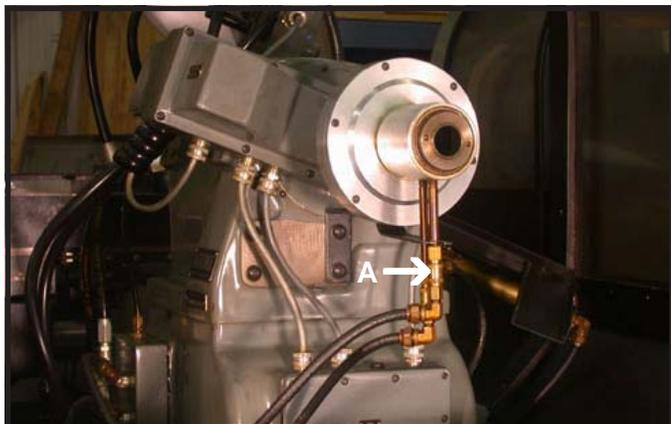
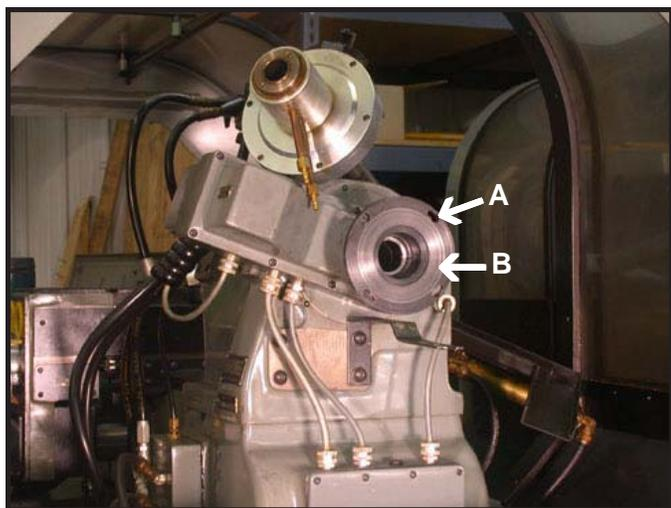

Figure 2.5.1
Figure 2.5.2
Installing new belt can be done after the removal of the feedback unit (See Figures 2.5.1 through 2.5.5).
Removal of the collet closer and the collet closer back plate. Tag which air line is connected to which fitting and then disconnect the two air lines from the collet closer by pulling up on the quick disconnect (A). Loosen the four socket head cap screws on the back of the collet closer (see Figure 2.5.2 - A). Make sure the collet has been removed from the spindle. Rotate the collet closer slightly clockwise, when looking at the collet closure from view in Figure 2.5.1 and pull it toward you to remove the screw heads from the keyhole slots in the collet back plate. Keep pulling the collet closer toward you until the end of the draw tube clears the hole in the collet closer back plate (See Figure 2.5.2).